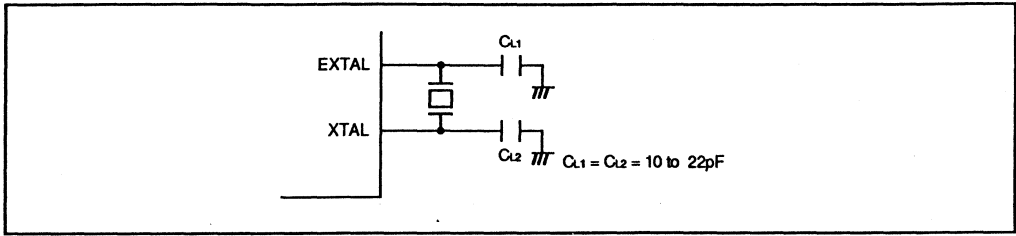

Figure 16-2. Connection of Crystal Oscillator (Example)
(1) Connecting an External Crystal
① **Circuit Configuration:** An external crystal can be connected as in the example in Figure 16-2. An AT-cut parallel resonating crystal should be used.